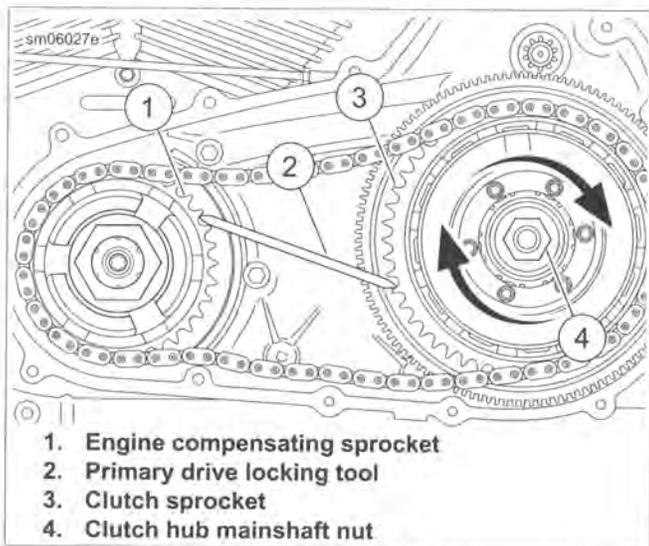
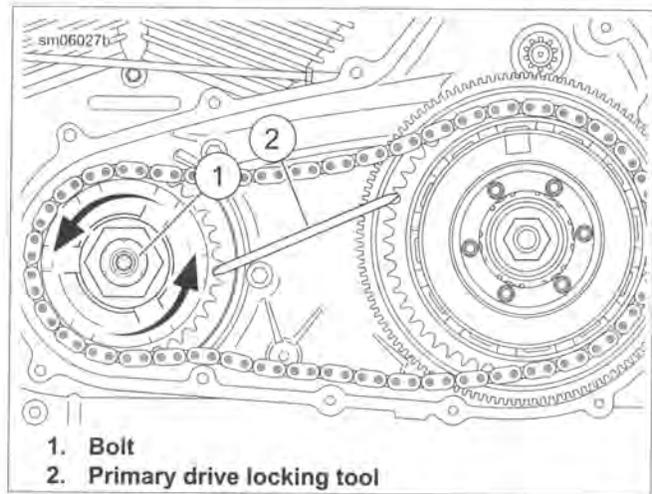

Figure 5-7. Removing Clutch Hub Mainshaft Nut
Figure 5-8. Removing Engine Compensating Sprocket Bolt
8. See Figure 5-7. Place the PRIMARY DRIVE LOCKING TOOL (Part No. HD-48219) between the teeth of the engine and clutch sprockets as shown.
9. Rotate clutch hub mainshaft nut (4) clockwise to remove.
10. See Figure 5-8. Place the primary drive locking tool between the teeth of the engine and clutch sprockets as shown.